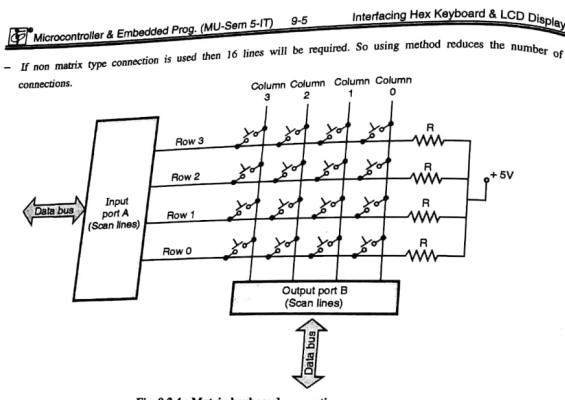

Fig. 9.2.4 : Matrix keyboard connections
- Fig. 9.2.4 shows the interfacing of a matrix keyboard, it requires two ports : an input port and an output port. The columns are referred to as scan lines and rows are referred to as return lines.